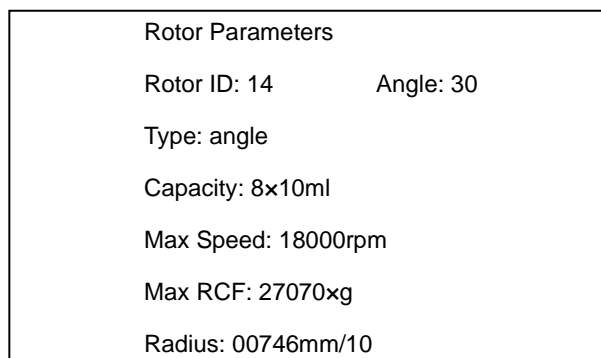

Figure 7-6 Browsing rotor parameters
In the preparation mode, press  button twice, the information of the current rotor will be displayed. See Figure 7-6, take rotor 14 for example.
- Press  button twice, the rotor information is displayed, as shown in the Figure 7-6.